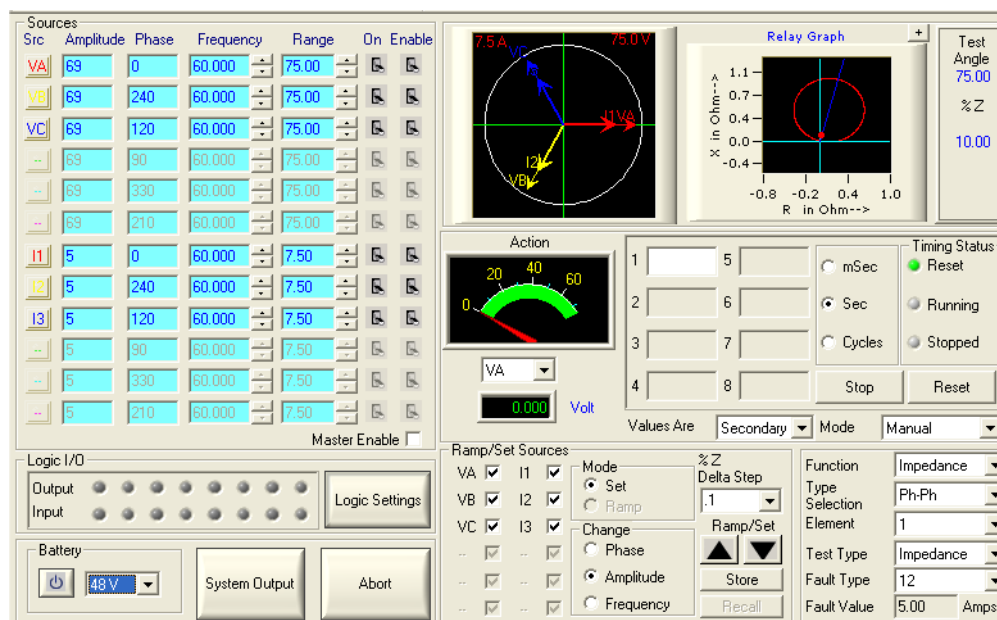

Figure 3.2 F6000 Control Panel Version 2
8. Select *Start > Programs > ProTesT > Tools > F6000 Control Panel* to access the F6000 Control Panel Version 2 (Figure 3.2).